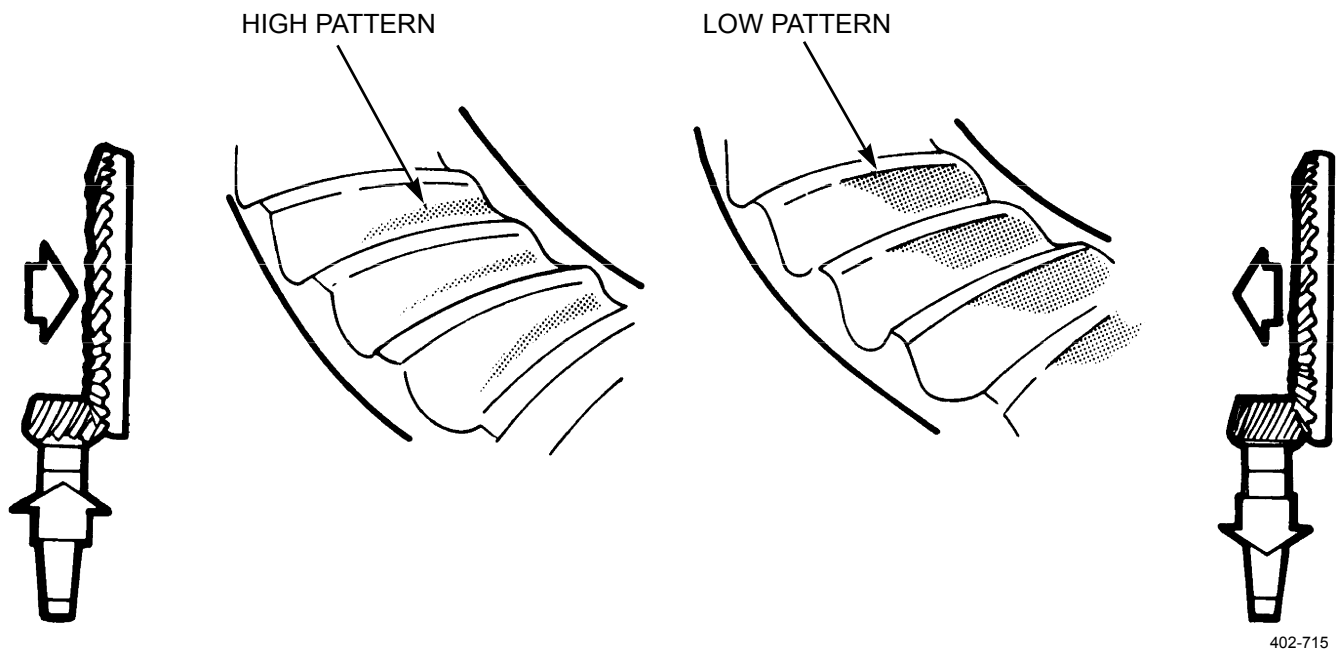

Figure 6. Incorrect Contact Patterns.
- (5) After the correct contacts (shown above) have been established with a backlash of 0.015 in. (0.381 mm) open backlash to measure between 0.008-0.020 in. (0.203-0.508 mm) if required.
- (6) Set used gear to have the tooth contacts match wear patterns. Hand-rolled patterns of used gears will be smaller in area and should be at the toe end of wear patterns. Incorrect patterns are shown in figure 6.